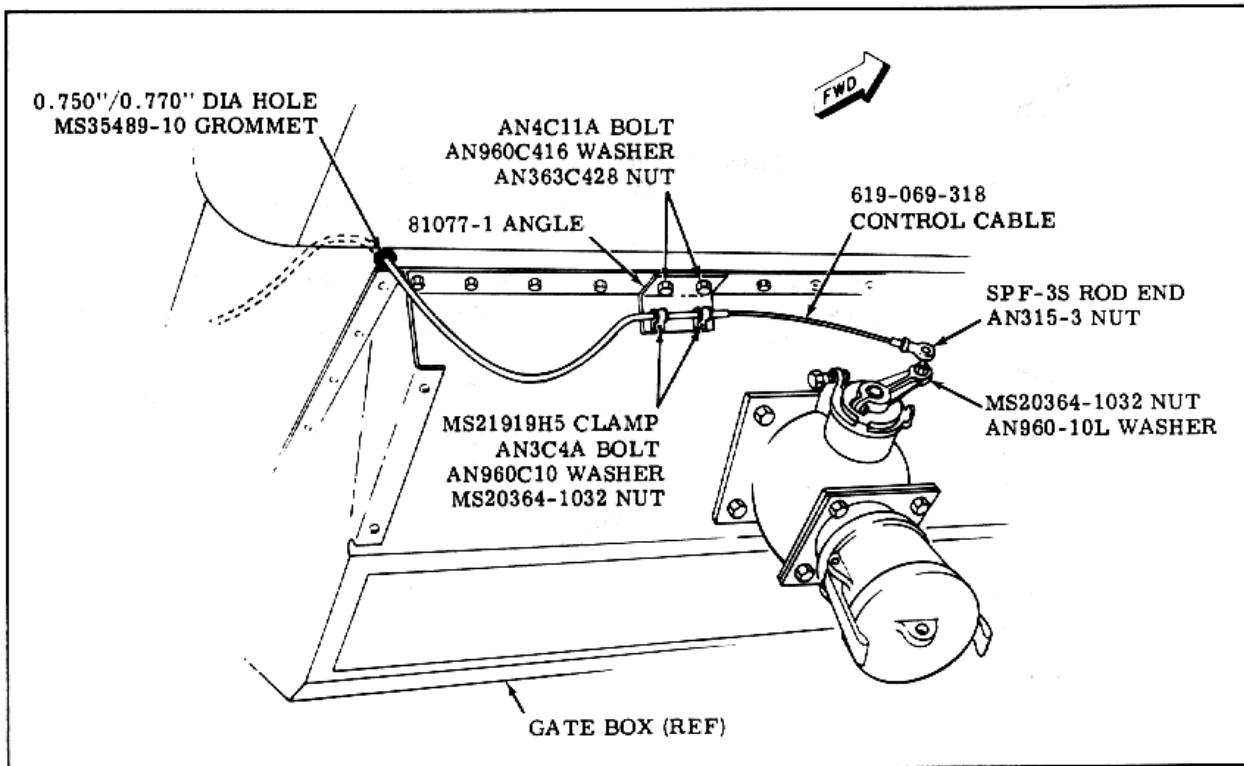

Figure 4.
- i. Drill a 0.760 (\pm 0.010) inch diameter hole in lower gate box skin for control cable routing (see Figure 4.).
- j. Install 81077-1 angle (see Figure 4.).
- l. Install 619-069-318 control cable, SPF-3S rod end, AN315-3 nut, MS21266-IN grommet and MS35489-10 grommet (see Figure 4.)